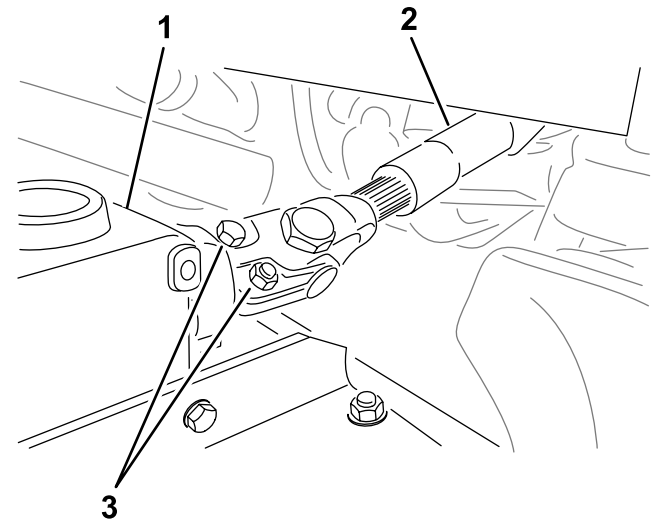

Figure 21
5. Remove the bolts and nuts from the PTO shaft (Figure 21) and slide the yoke out of the gearbox.